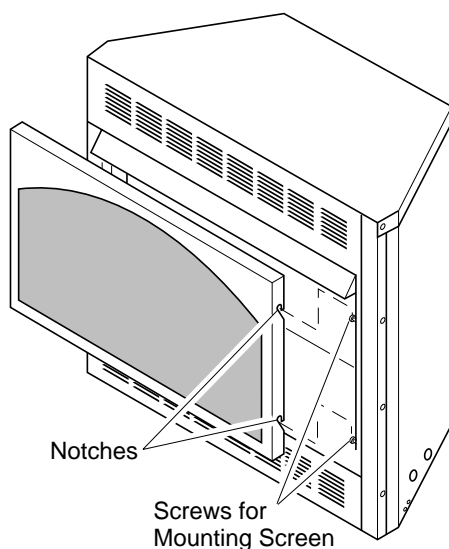

Figure 25 - Installing Fireplace Screen
2. Install fireplace screen by slipping notches of fireplace screen over screws on front of fireplace (see Figure 25).